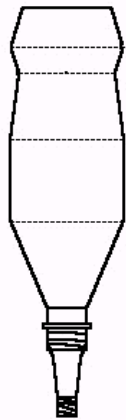

Fig. 3
1. Take a short piece of bailing wire and wrap it around the eraser end of the pencil about one inch from the end. Use pliers to twist the wire tightly so that it "bites" into the wood a bit. Next, bend the twisted ends into a hook as shown in figure 3.
2. Take a sharp knife and cut a notch in the other end of the pencil as shown in figure 3.
3. Shove the tire valve stem into the neck of your soda bottle rocket (Fig. 3).